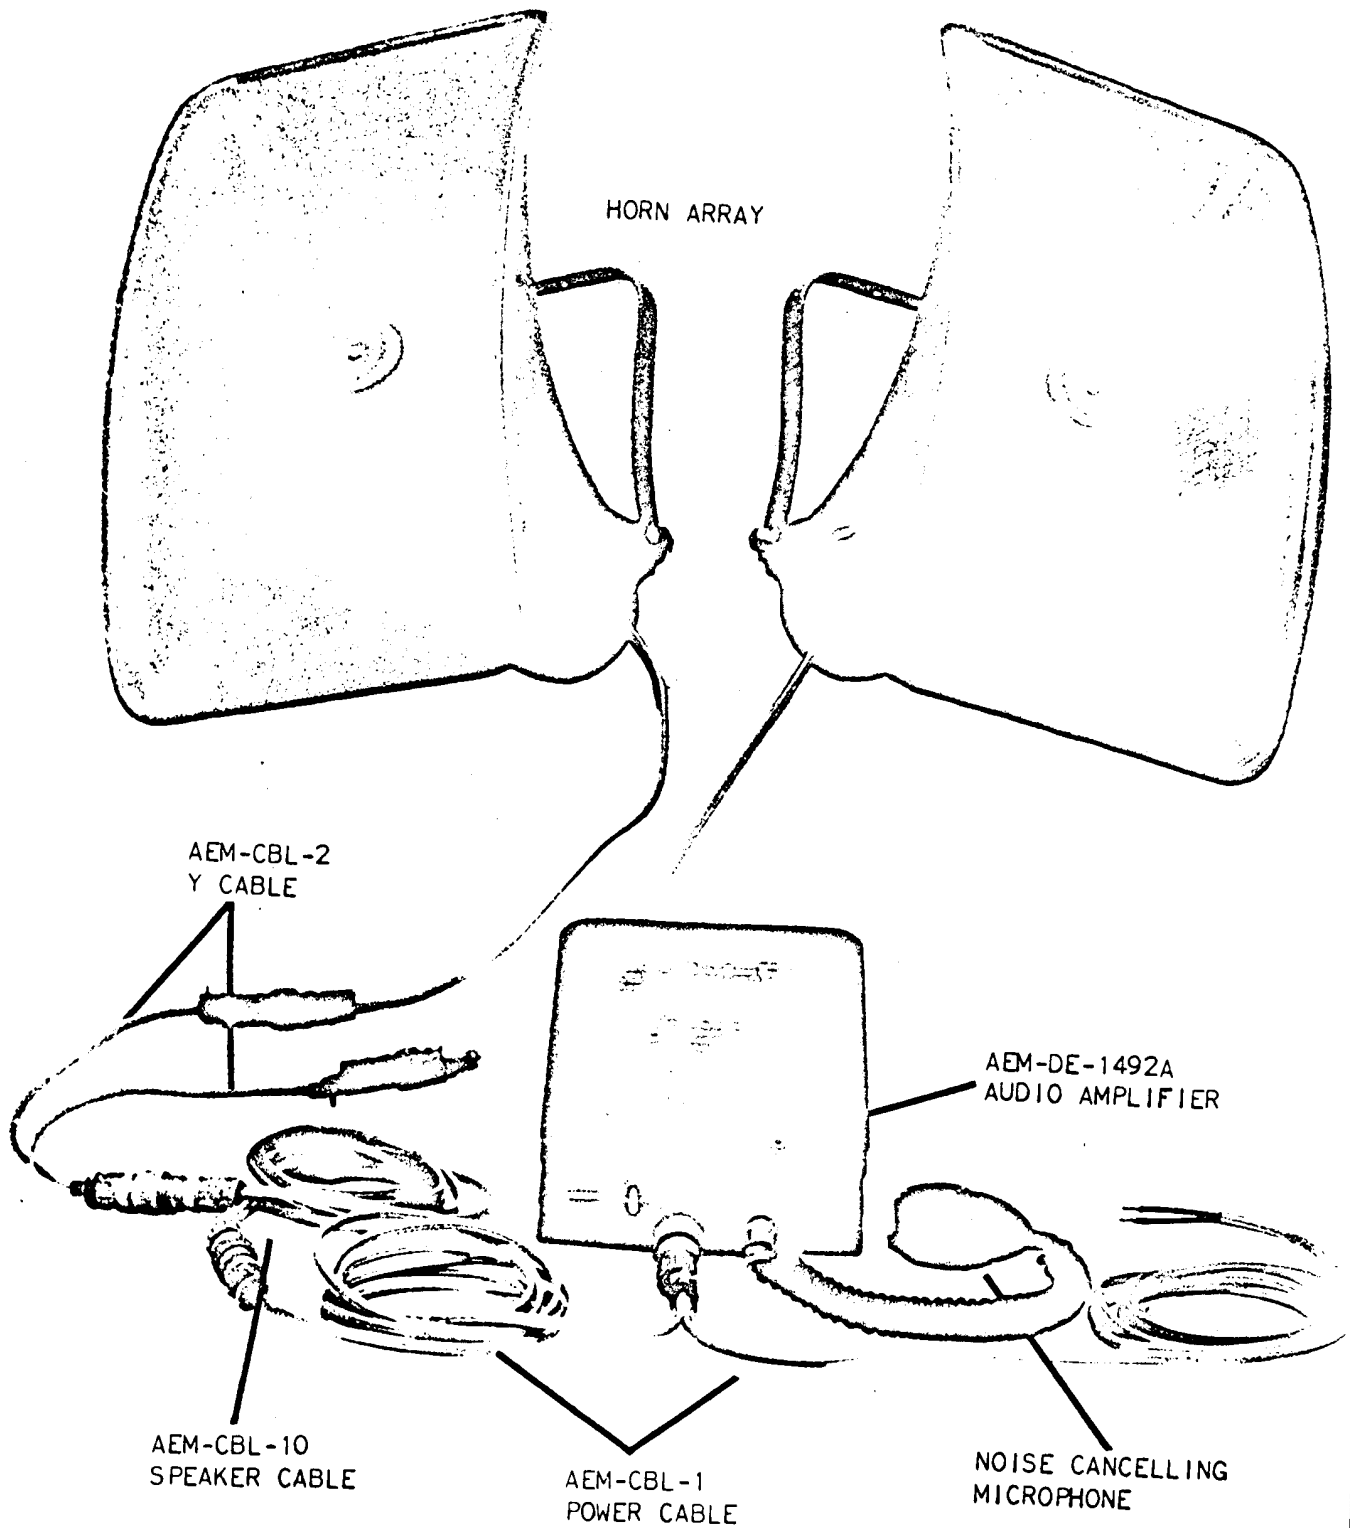

FIGURE 1 HIGH POWERED VOICE AMPLIFIER SYSTEM TYPE DE-1492-A
2. PURPOSE AND CHARACTERISTICS - High Powered Voice Amplifier AEM Type DE-1492-A provides for a portable, lightweight, compact, high gain tactical sound system, illustrated in Figure 1. It is designed for point-to-point dissemination of sound over land, water or from the air. The equipment described herein is capable of satisfactory operation over the temperature range of minus 30 degrees Fahrenheit (-35C) to plus 130 degrees Fahrenheit (55C), relative humidity up to 97 per cent, and altitudes from 0 to 12,000 feet above mean sea level. The maximum useable range is greater than one mile when operated from a favorable vantage point. The maximum rated audio power output is 250 watts feeding a suitable horn array. Amplifiers may be operated in combinations of two, four or more. Information concerning operation in combinations or for other special requirements will be furnished upon request.